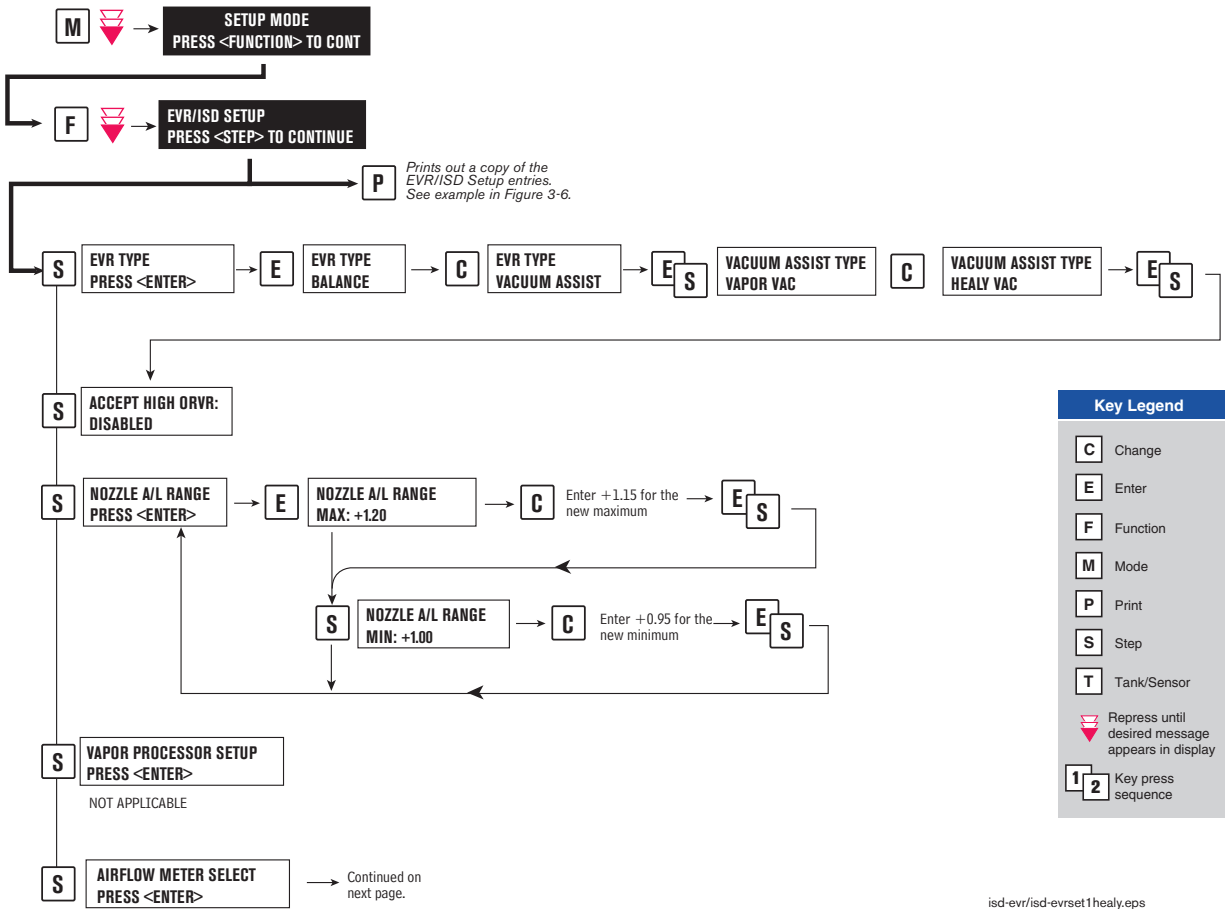
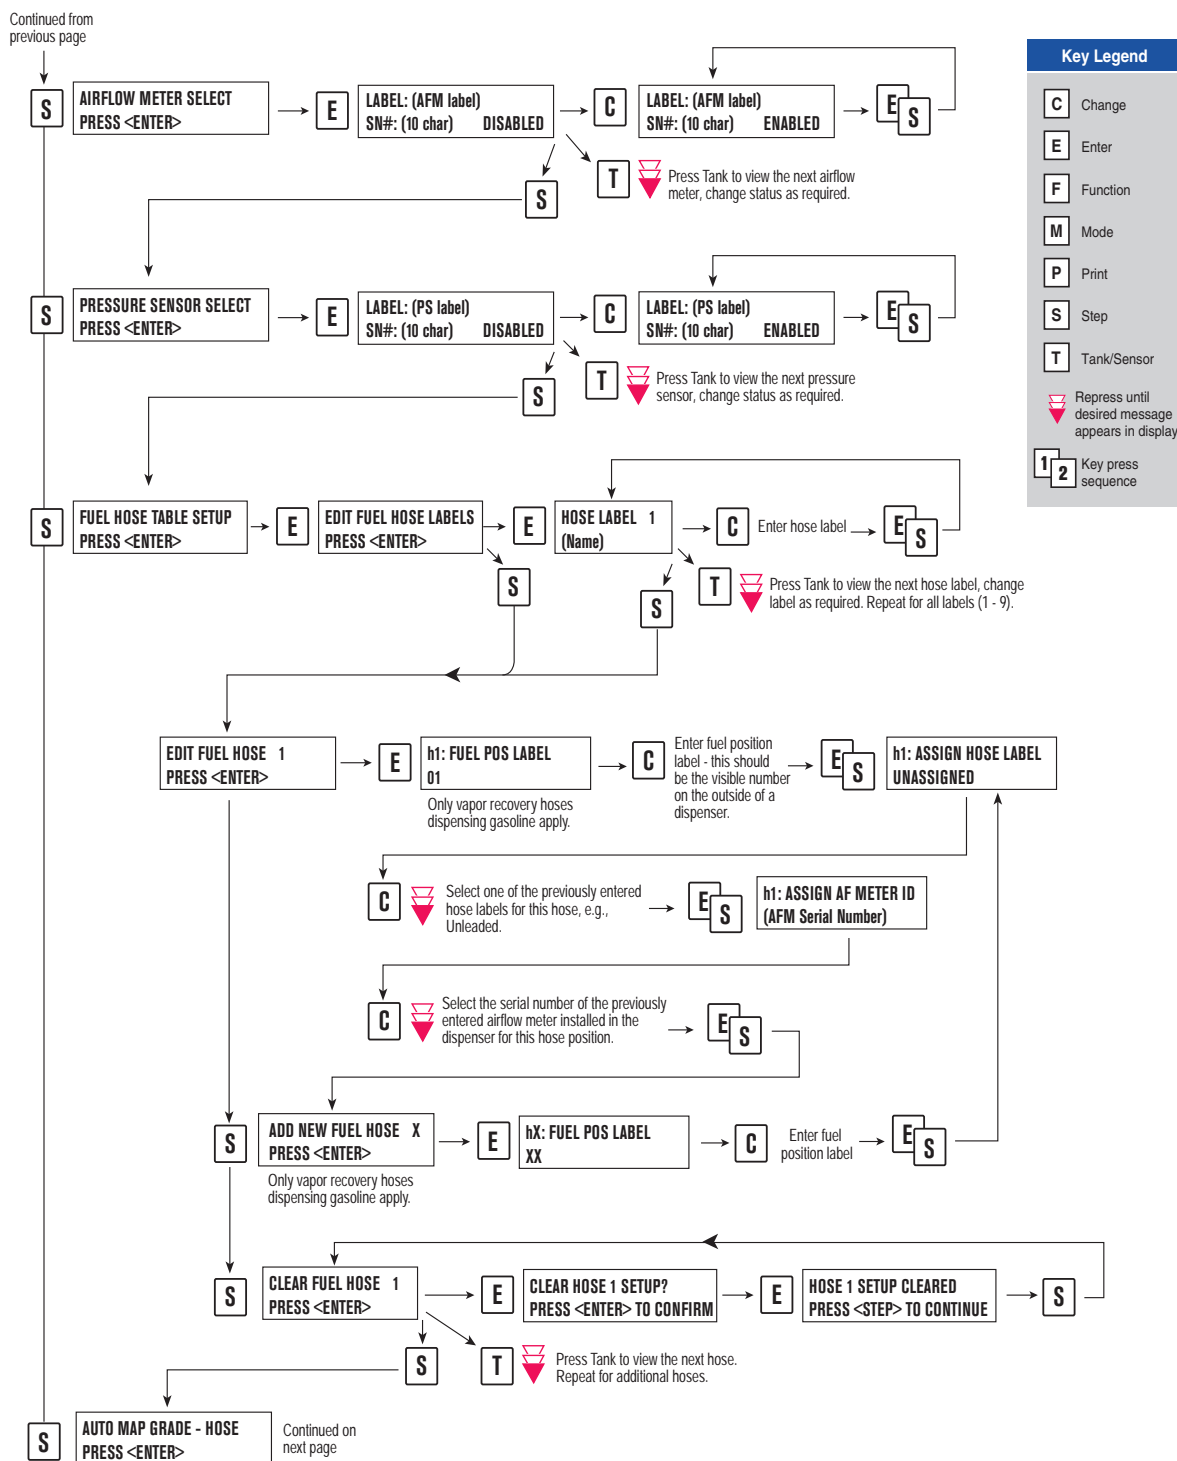
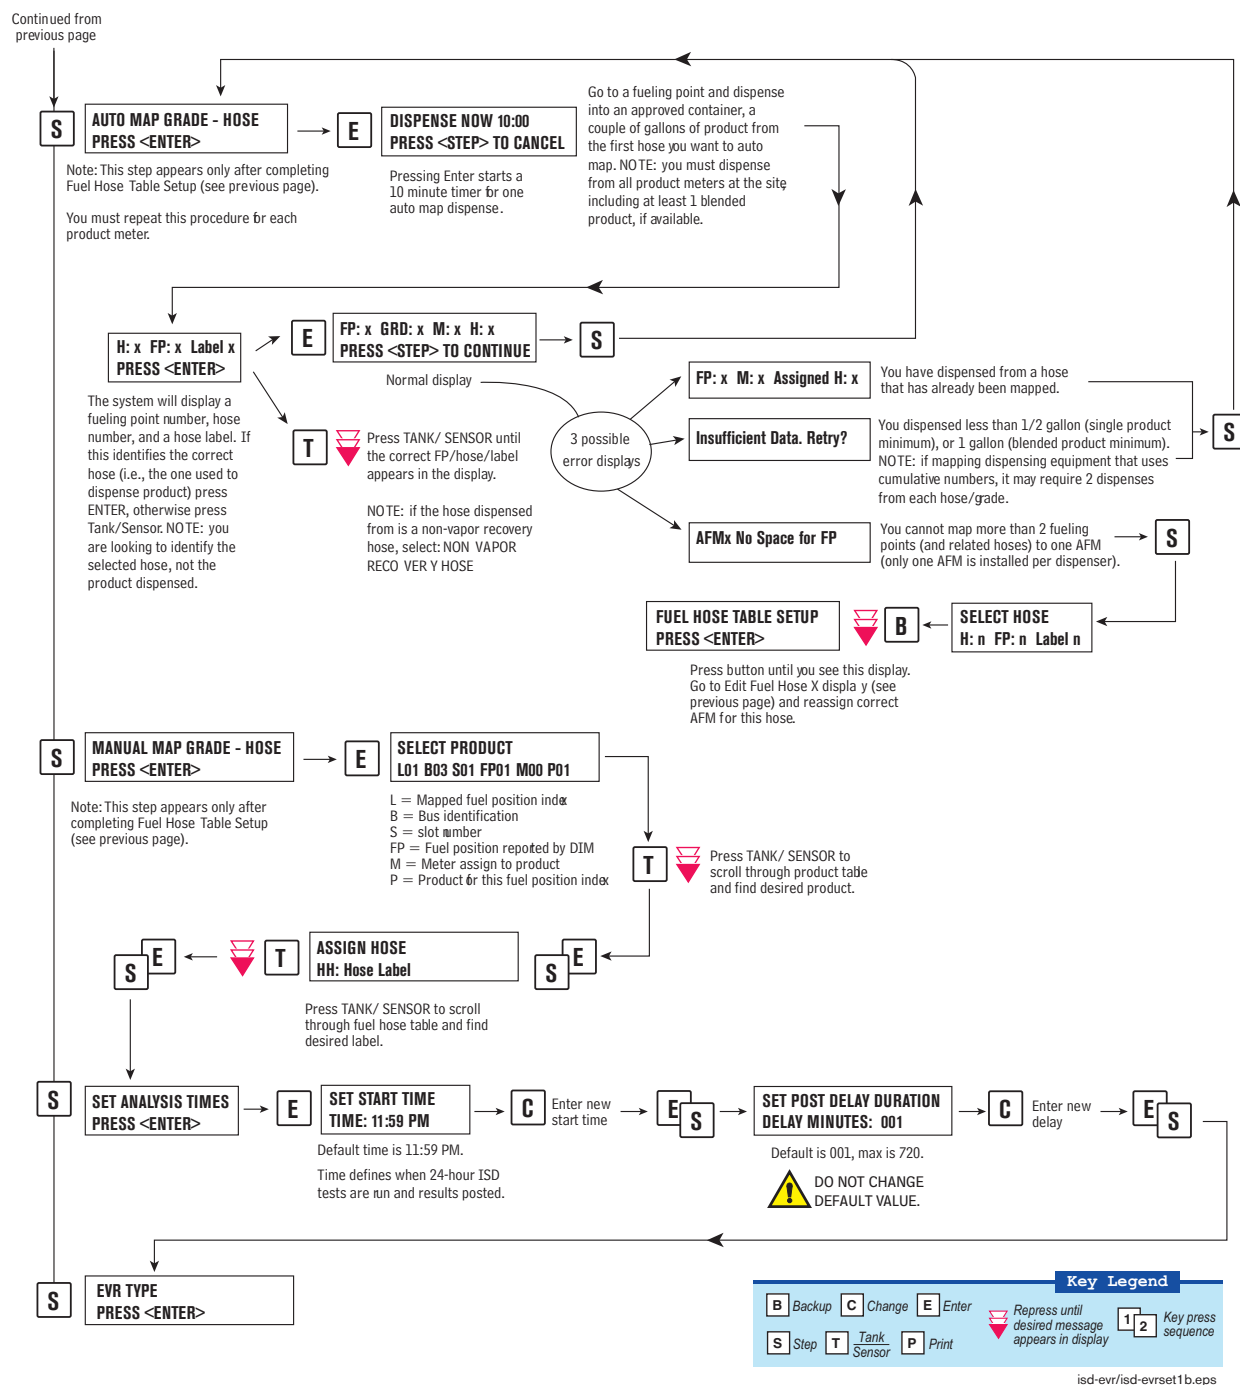

Figure 3-3. EVR/ISD Setup 1
Figure 3-4. EVR/ISD Setup 2
Figure 3-5. EVR/ISD Setup 3
- EVR/ISD Setup - All ISD sites - Figure 3-3, Figure 3-4, Figure 3-5
The next step in programming your system requires documentation of information from the ISD equipment installed at the facility. Choose the appropriate data sheet from Appendix A for the vapor recovery system installed at your facility. Record the unique information from the sensors prior to attempting the TLS EVR/ISD set up described in Figure 3-4. After you complete the TLS EVR/ISD you must perform the Product Meter ID set up procedure to complete the set up
Figure 3-3, Figure 3-4, and Figure 3-5 diagram the EVR/ISD setup programming. Start with the first figure, continue to the second, and finish in the third. Figure 3-6 shows an example printout of the EVR/ISD setup.